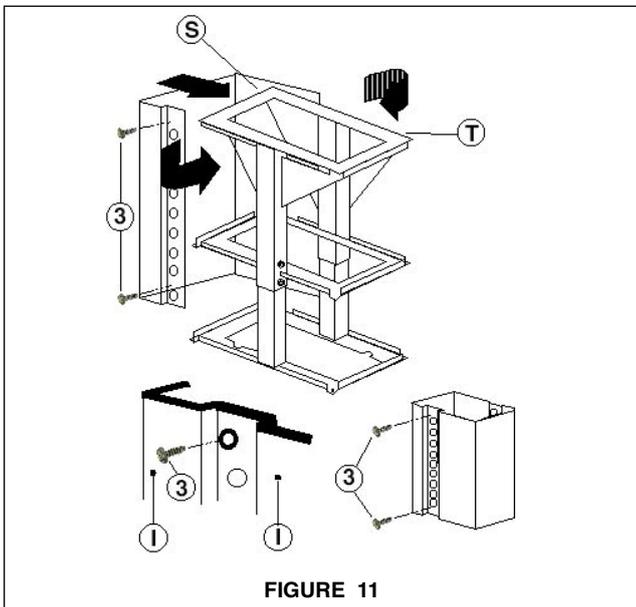

FIGURE 11
8. Attach the chimney cover to the support. The chimney cover is supplied in two sections with each section having two pieces. The upper section of the chimney cover (**S**) must be installed first, then the lower section (**I**). **FIGURES 11 and 12** illustrate the attachment of the chimney cover. The lower section fits over the upper section. Once the covers are in the final position, screws are used to secure the top and bottom of each cover to the support.